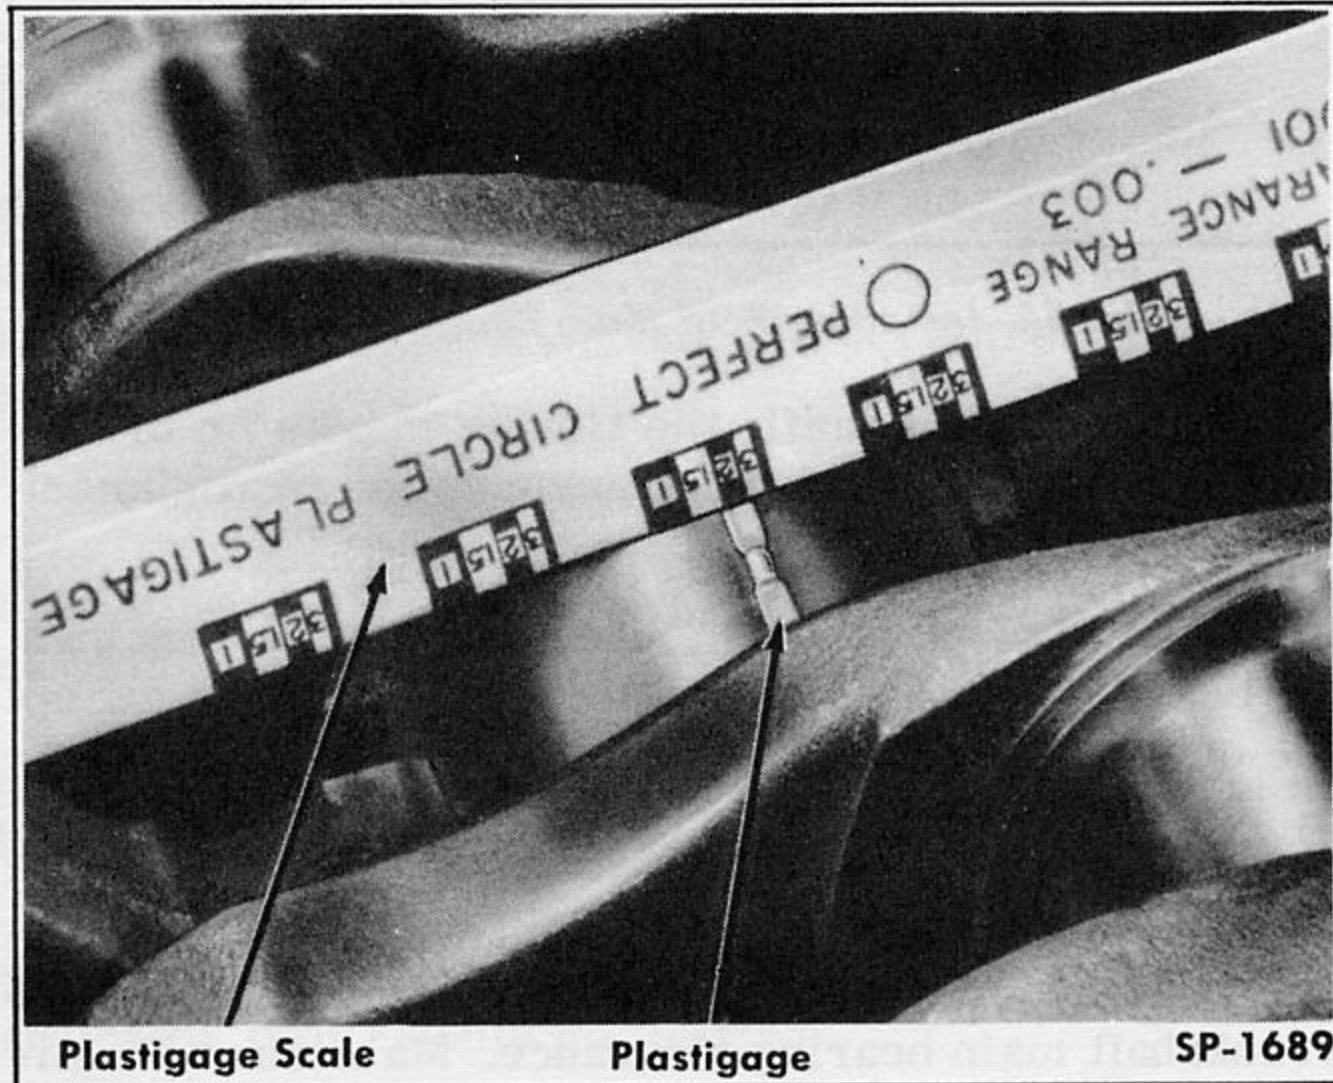

Fig. 55—Checking Main Bearing Clearance with Plastigage
- (d) Remove cap and measure width of the flattened Plastigage, using the scale printed on the edge of the envelope (Fig. 55). The proper size Plastigage will accurately measure clearance down to $.001$ of an inch.